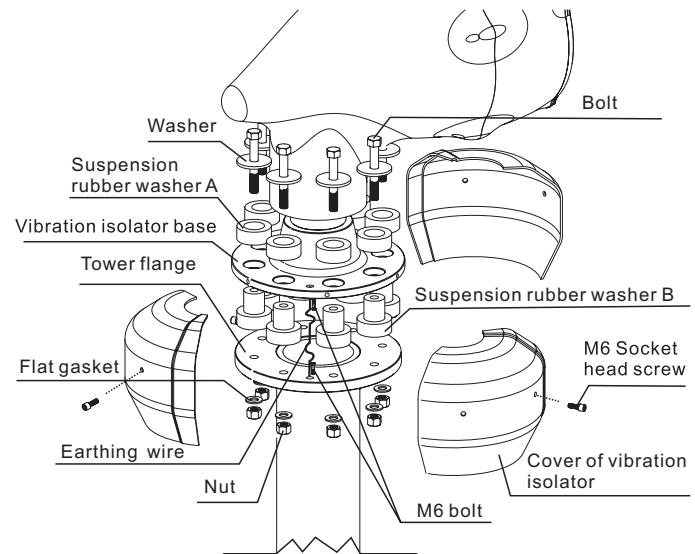

Figure 3
- As depicted in figure 3 , insert the suspension rubber washer B to the vibration isolator base, tighten the suspension rubber washer B and A through the vibration isolator base.
- Mount the covers of vibration isolator using six M6 socket head screws. Refer to figure 3.